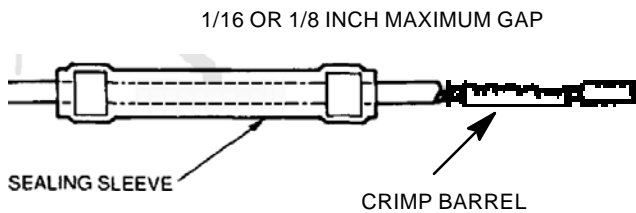

Figure 3. Correctly Installed Crimp Barrel.
- (1) Indent centered on splice barrel.
- (2) Indent in line with barrel.
- (3) Barrel not cracked.
- (4) Wire cannot be pulled out of splice.
(5) Gap of 1/32 to 1/16-inch for wire gages 10 thru 26, or 1/16 to 1/8-inch for wire gages 6 and 8 exists between crimp barrel and wire insulation (Figure 3).
- k. Insert crimp barrel into correct cavity of crimp tool. For wire gages 12 thru 26, the cavity color code will match the color stripe on the crimp barrel. Ensure end of crimp barrel is against stop of tool and inspection hole is visible (Figure 3).